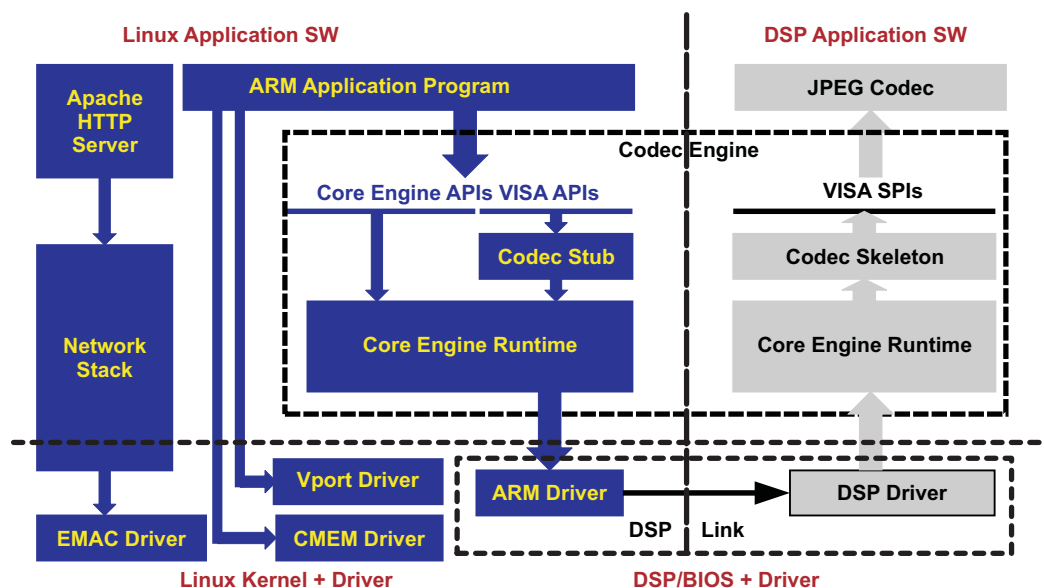

**Figure 2. Dataflow of Motion JPEG Demo on DM6446**
**Figure 2** shows the demo dataflow. The input video signal is captured from the camera via the video input port and stored into the input buffer located in the DDR2 memory by the video port driver running on the ARM core of the DM6446 processor. The application program on ARM delivers the input data to the JPEG codec running on the DSP core. The JPEG codec encodes the input raw image and saves the compressed JPEG image to the output buffer located in the DDR2 memory. After that, the application program saves the output data to the /tmp directory which is a RAM disk mounted in the Linux file system. Storing the output images to the RAM disk allows fast access and improves system performance.